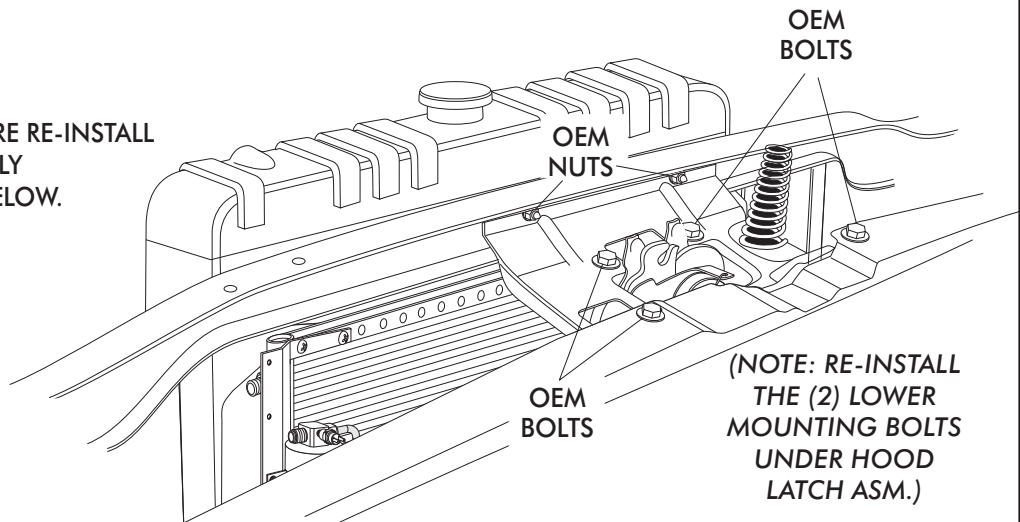

FIGURE 8
- USING THE OEM HARDWARE RE-INSTALL THE HOOD LATCH ASSEMBLY AS SHOWN IN FIGURE 8 BELOW.